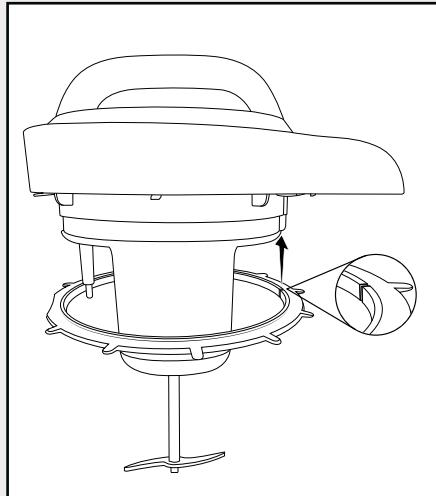

Fig. 1
- Pull the sealing ring ⑧ downwards off the lid ⑨.
- Clean the sealing ring ⑧ in warm water with a little washing-up liquid. Rinse off all detergent residues and dry the sealing ring ⑧ thoroughly.
- Remove any dirt from the recess on the lid ⑨ with a damp cloth. If necessary, apply a mild washing-up liquid to the cloth. Afterwards, wipe with a cloth moistened only with fresh water and dry everything thoroughly.
- Push the sealing ring ⑧ back onto the lid ⑨ so that the sealing ring ⑧ slides into the recess. Make sure that the small notch on the sealing ring ⑧ is wrapped around the fixing lug on the cover ⑨ (Fig. 1). The flattened side of the sealing ring ⑧ should lie on the same side as the sensor ⑦: